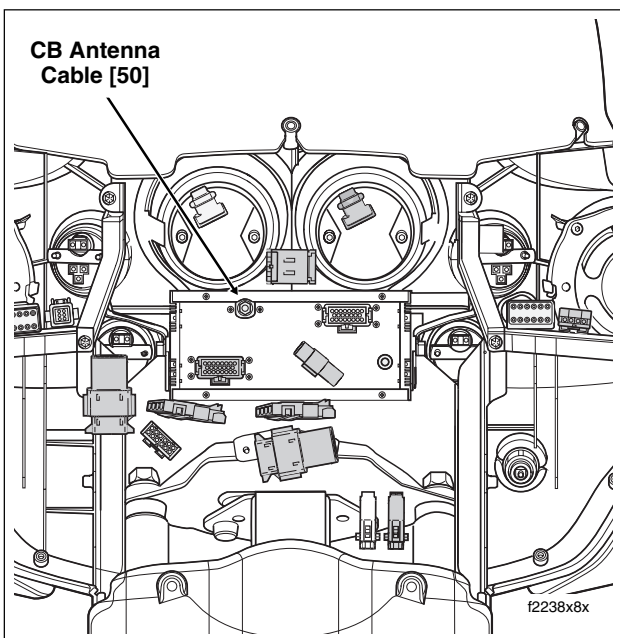

Figure 8-177. CB Antenna Cable Connector (Inner Fairing)
5. Locate CB antenna cable connector [50] at back of radio (right side). Rotate knurled ring in a counterclockwise direction to disconnect. See Figure 8-177. Carefully cut cable where it exits audio harness conduit.
6. At front of inner fairing, rotate knurled ring to connect CB antenna cable connector [50] to back of radio. See Figure 8-177.